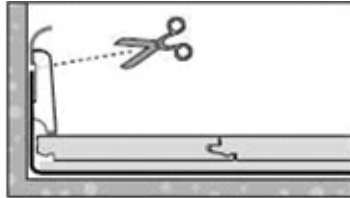

Figure 2
2. Prior to installing flooring, roll out 6mil poly-film with seams overlapped 8". Fasten seams every 18" -24" with duct tape or poly tape. Run the outside edges of film up the perimeter of wall. (See Fig.2)